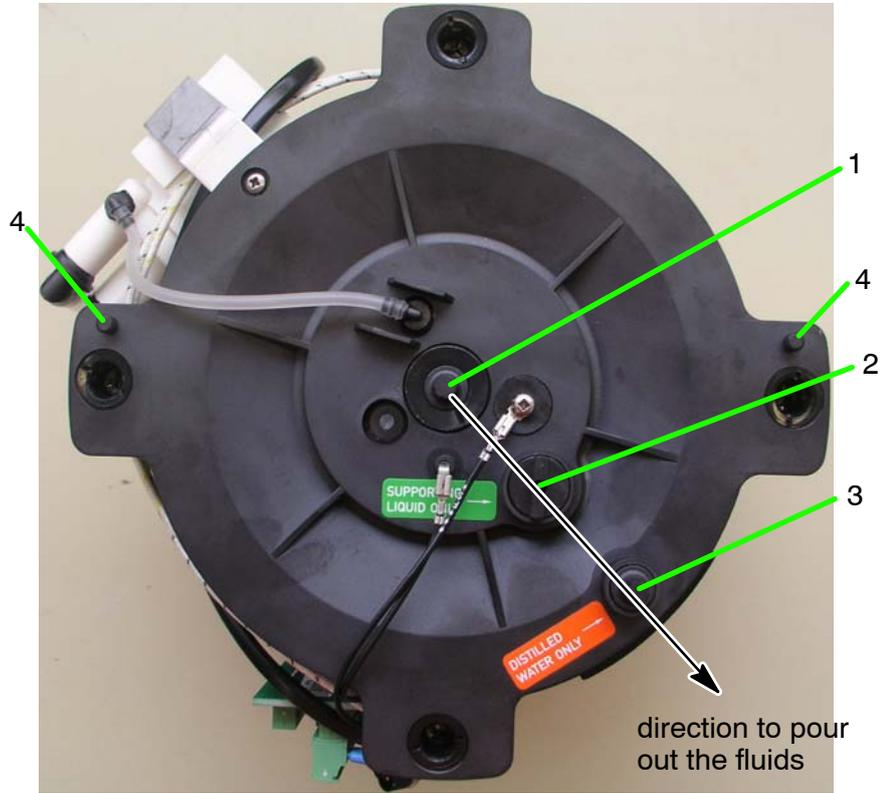

Figure 67: Dismantled outer sphere (overhead view)
(see Figure 67)
- Remove the ventilation screw (Figure 67/1) to vent the system
- Remove the supporting liquid screw (Figure 67/2) so that the supporting liquid can be poured out
Observe the direction to pour out the fluids (see Figure 67).
- Remove the distilled water screw (Figure 67/3), so that the distilled water can be poured out. Remove the remaining distilled water from the outer sphere with the injector.
Observe the direction to pour out the fluids (see Figure 67)